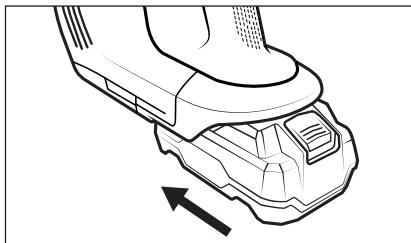

Fig. 3
- 3) Slide a battery from the X 20 V TEAM series (see section **Information about the battery**) into the battery slot 1 until it audibly clicks into place (see Fig. 3).